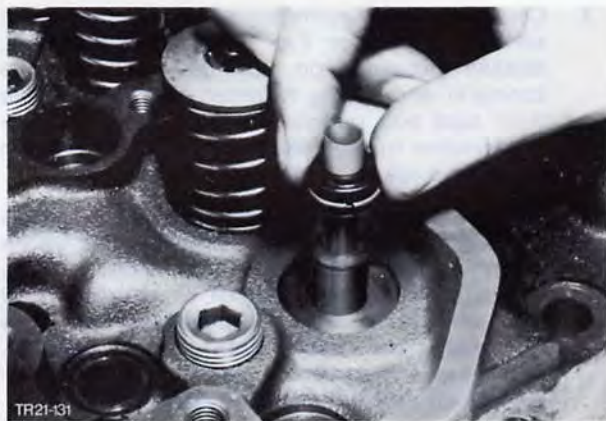

Fig. 117. Fit valve stem seals
5. Lubricate and insert valves. Cover splines with adhesive foil, Fig. 116. Slide valve stem seals into position against stop, Fig. 117 and remove adhesive foil. Replace valve springs and valve spring retainers, compress with spring compressor and refit collets, paying attention to correct collet seating.